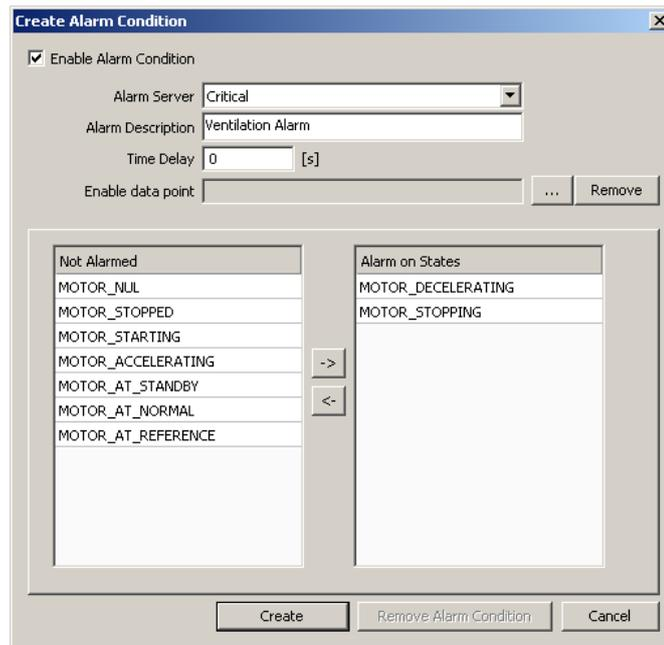

Figure 126: Alarm Condition for a Multi-State Data Point.
7. For a multi-state data point, the dialog as shown in Figure 126 appears. Select the **Alarm Server**. Optionally, enter an **Alarm Description**. If left empty, the description of the data point is used. Enter a **Time Delay**, after which the condition is evaluated. Select the **Alarm States**, which triggers the alarm, by clicking the arrow buttons.